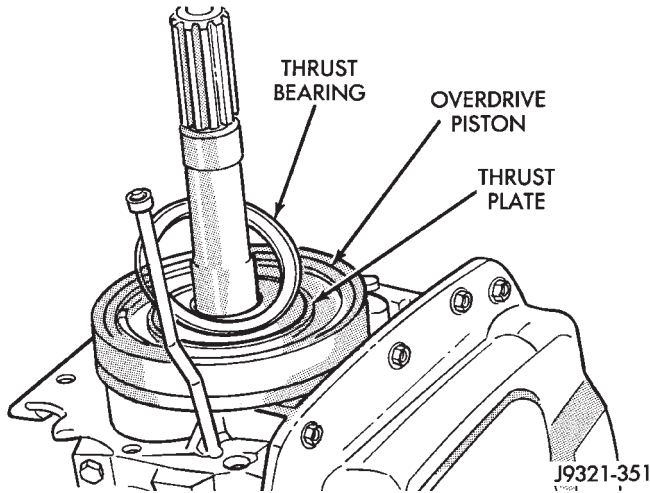

Fig. 4 Overdrive Piston Thrust Bearing Removal/ Installation
- (5) Remove overdrive piston thrust bearing (Fig. 4).